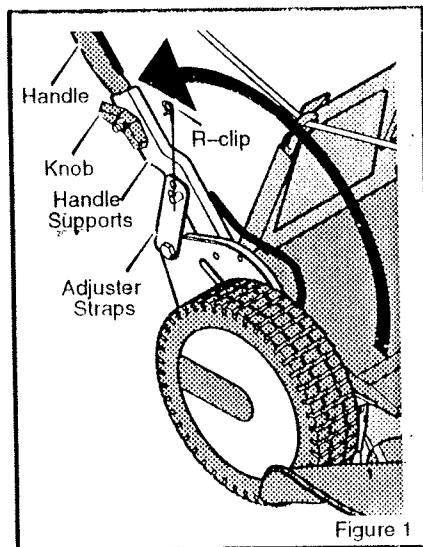

Figure 1
2. Put the **handle supports** in the operating position (Figure 1).